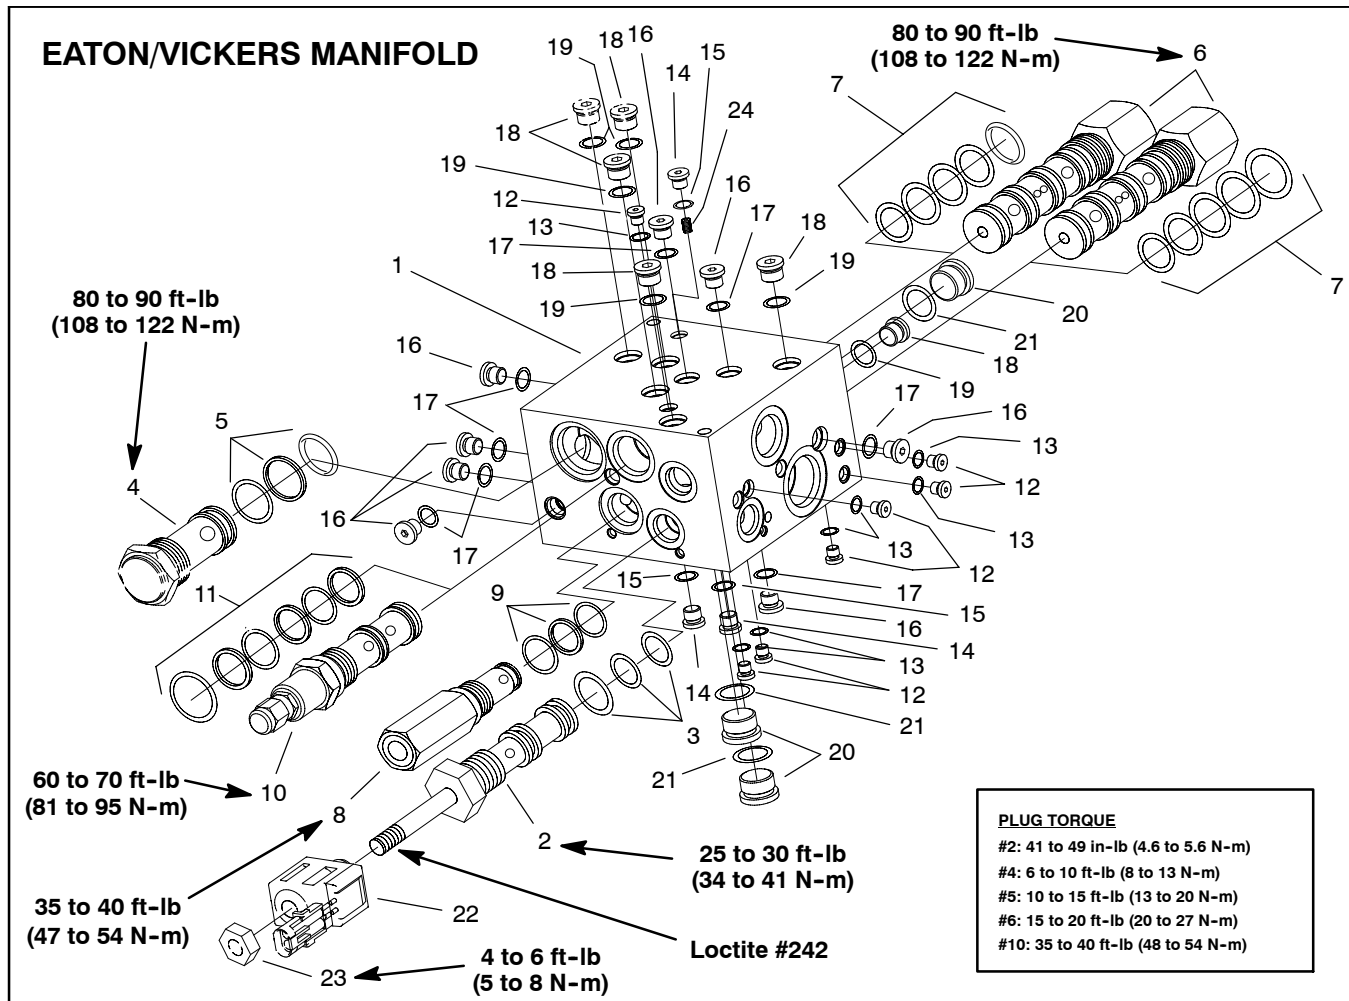
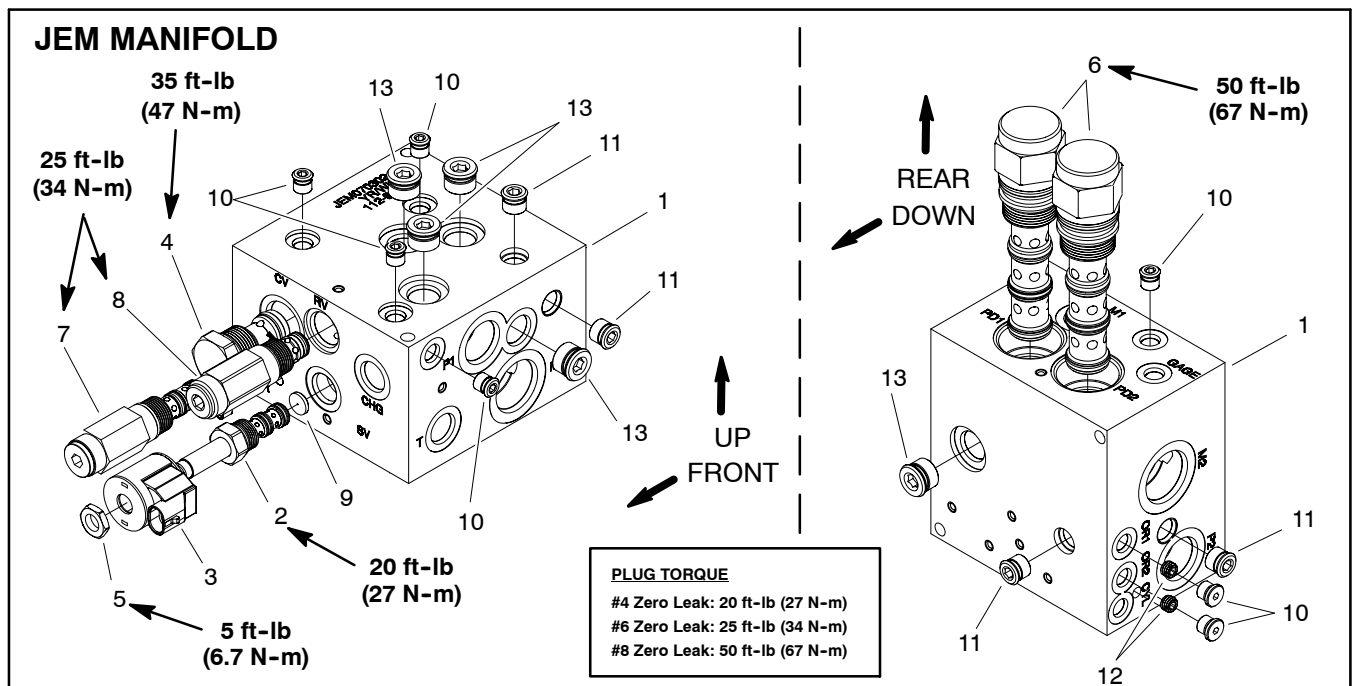

Figure 54
Figure 55
**NOTE:** 4WD manifolds used on Groundsmaster 4000-D machines are either Eaton/Vickers (Fig. 54) or JEM (Fig. 55).